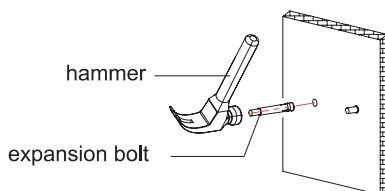

Figure 3
3. Knock expansion bolts into each hole with hammer. (Fig 3)